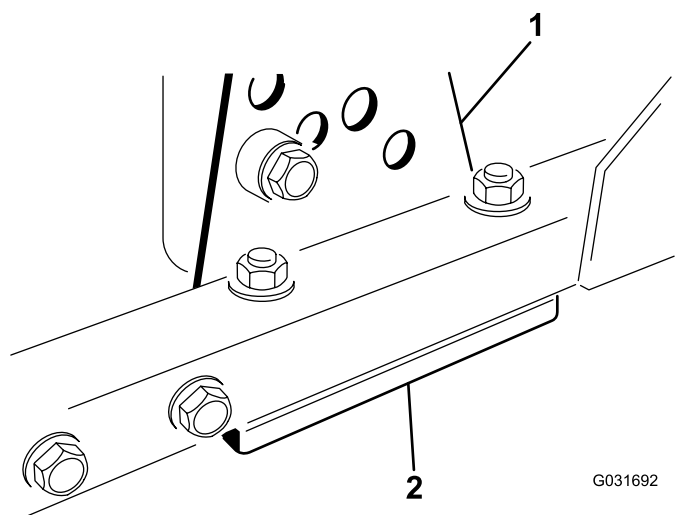

Figure 65
1. Remove the height-of-cut bracket (front, left, or right) from the deck frame (Figure 65).
2. Adjust 1.5 mm (0.060 inch) shims and/or 0.7 mm (0.030 inch) shim between the deck frame and bracket to achieve the desired height setting (Figure 65).